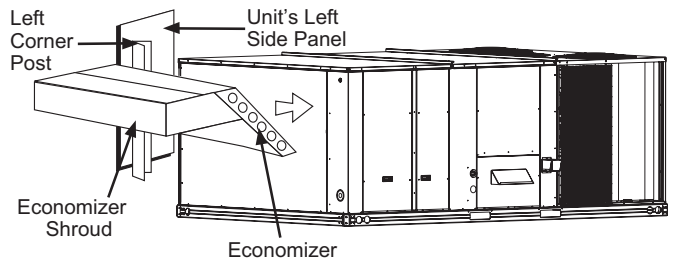
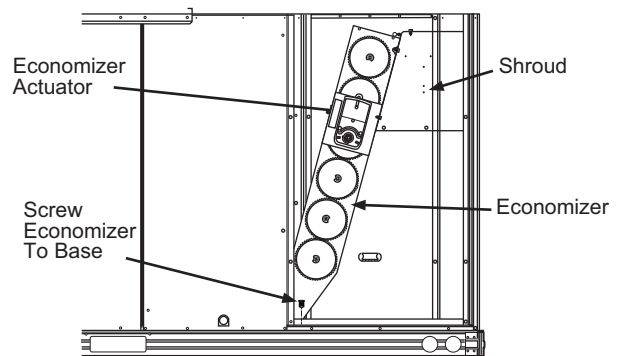
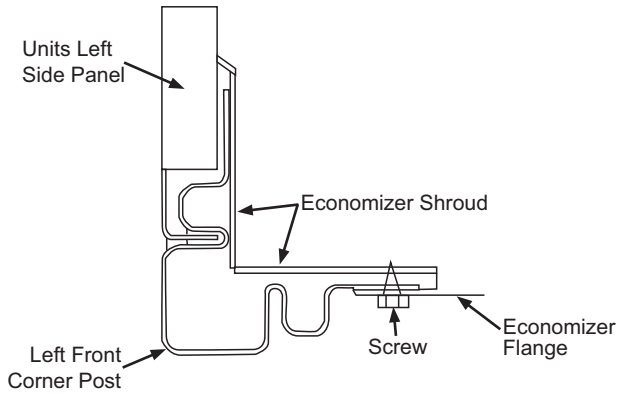

Fig. 3 — Unit Left Side Panel and Corner Post
Fig. 4 — Side View
Fig. 5 — Top View
4. Remove the unit's left side corner post and left side panel to allow for easy economizer installation. (See Fig. 3.)
5. Install economizer with shroud attached, as shown in Fig. 3, into the return air section of the unit. Be careful not to pinch the wires during installation. The bottom of the economizer will rest on the base of the unit. (See Fig. 4.)
NOTE: The corner post will sit behind the economizer shroud flange (see Fig. 5). Screw through the corner post and through the economizer shroud. (See Fig. 4 and 5.)
7. Insert provided screw through the bottom left rear of the economizer and into the unit base. (See Fig. 5 and 6.) Reinstall the unit's left side panel.
5. Install economizer with shroud attached, as shown in Fig. 3, into the return air section of the unit. Be careful not to pinch the wires during installation. The bottom of the economizer will rest on the base of the unit. (Refer to Fig. 4.)
NOTE: The corner post will sit behind the economizer shroud flange. Screw through the corner post and through the economizer shroud. (Refer to Fig. 5 and 6.)
7. Insert provided screw through the bottom left rear of the economizer and into the unit base. (Refer to Fig. 4.) Install the new (provided) left side panel without the duct opening on the unit.